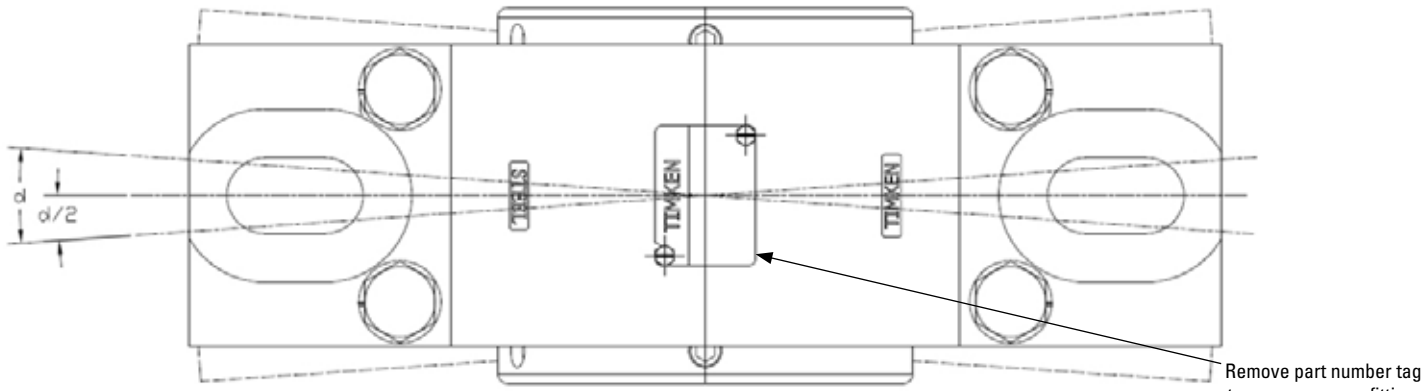
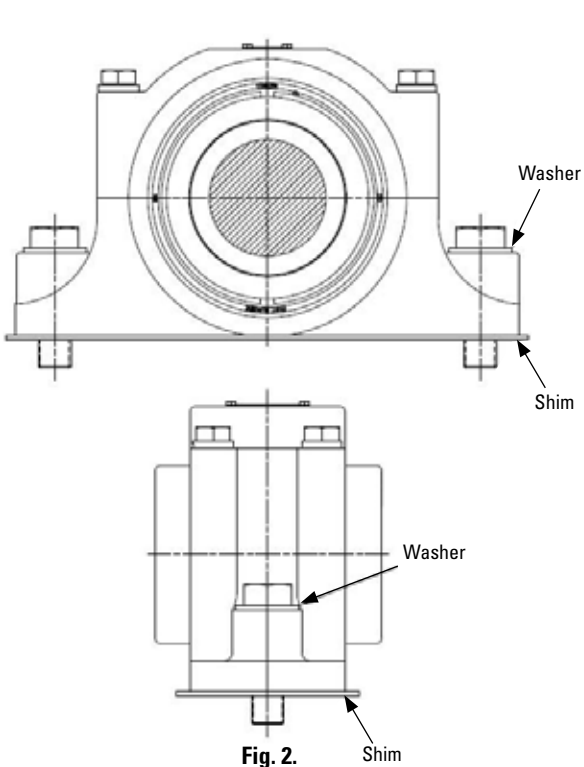

Fig. 1. Align housing to 1/2 total angular movement.
Fig. 2.
- a. It is necessary to make sure that the mounted bearings and shafts are in alignment (Fig. 1). The self-aligning units come with machined foot ends on the base of the housing to assist with alignment. Verify that the mounting surfaces are in the same flat plane to help make sure good alignment is achieved. If shimming is required to minimize misalignment, use full shims across the entire housing base (Fig. 2).
- b. Position expansion (floating) bearing assemblies on the mounting surface, then align and tighten base mounting bolts. Do not tighten the housing cap bolts or locking collar set screws at this time. Housing mounting bolts need to be alternately torqued securely to their mounting supports. Flat washers should be used when installing any kind of mounted bearing (Fig. 2). Washers should be properly sized to the bolt diameter and should not be an SAE grade less than SAE grade 8 or equivalent.
- c. Position non-expansion (fixed) bearing assemblies in correct relation to the shaft and mounting surface. Tighten base mounting bolts. Do not tighten the housing cap bolts or locking collar set screws at this time. Housing mounting bolts need to be alternately torqued securely to their mounting supports. Flat washers should be used when installing any kind of mounted bearing (Fig. 2). Washers should be properly sized to the bolt diameter and should not be an SAE grade less than SAE grade 8 or equivalent.
Grease fitting for relubrication is located under the part number tag (Fig. 1).